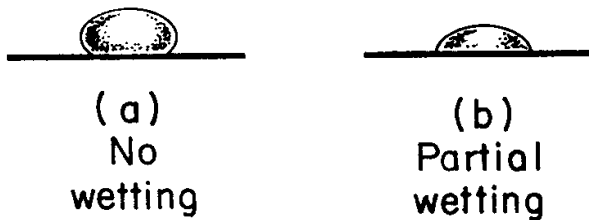

Fig. 4 How to tell if solder is wetting the surface.
2. Wet your finger and let a drop of water fall on the oily surface. The water will ball up as in Figure 4 (a). The water is not sticking to the surface, but rather it is lying on the surface. Tilt the metal on edge and the water will roll off, leaving the surface dry. The water did not wet the surface.
3. Let another drop of water fall on the oily surface. Examine it with care, comparing with Figure 4 (a). Solder that does not wet the surface will be humped up like this drop of water.